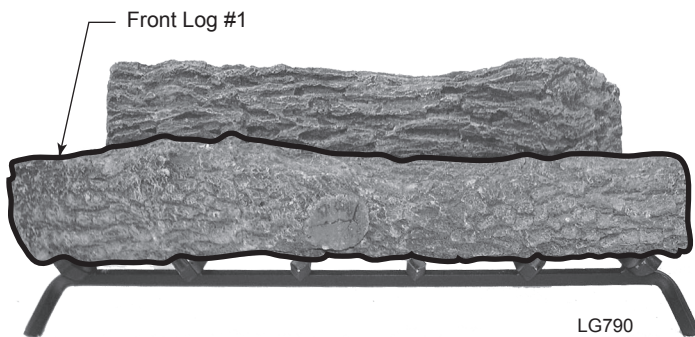

Figure 21 -
2. Place Front Log #1 on front of grate. *Figure 21*